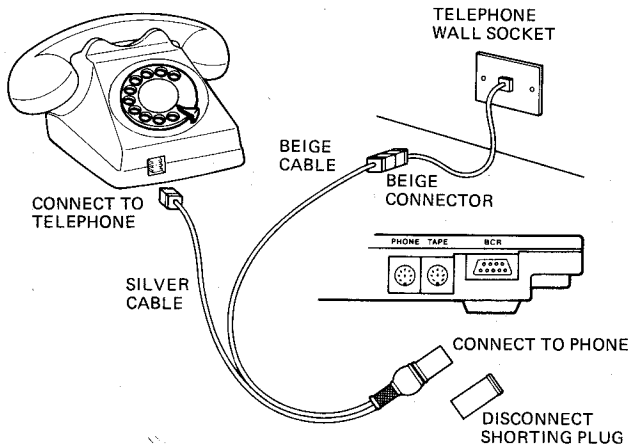

Figure 4 Connection of the M10 MODEM to a Telephone Line
The first requirement for remote data communications using the M10 MODEM is to connect the computer to a modular telephone line, as shown in Figure 4.
1. Connect the M10 MODEM to the telephone as shown in Figure 4. Set the DIR/ACP switch to DIR.